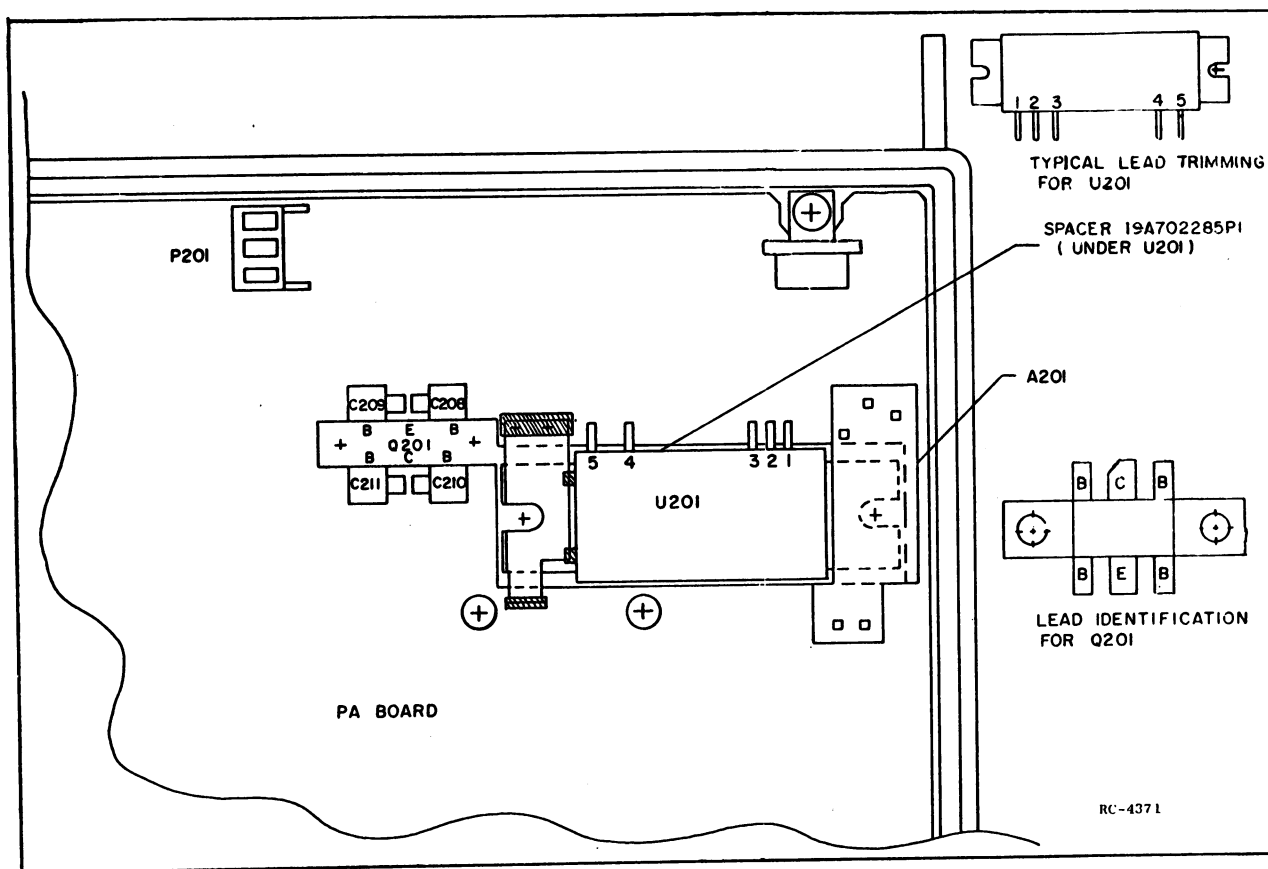

Figure 8 - Lead Forming and Identification
4. Remove all excess solder from board and clean the holes to allow the new transistor to be positioned properly and the capacitors to snap into proper locations. Refer to Figure 8 and trim leads of Q201 as shown.